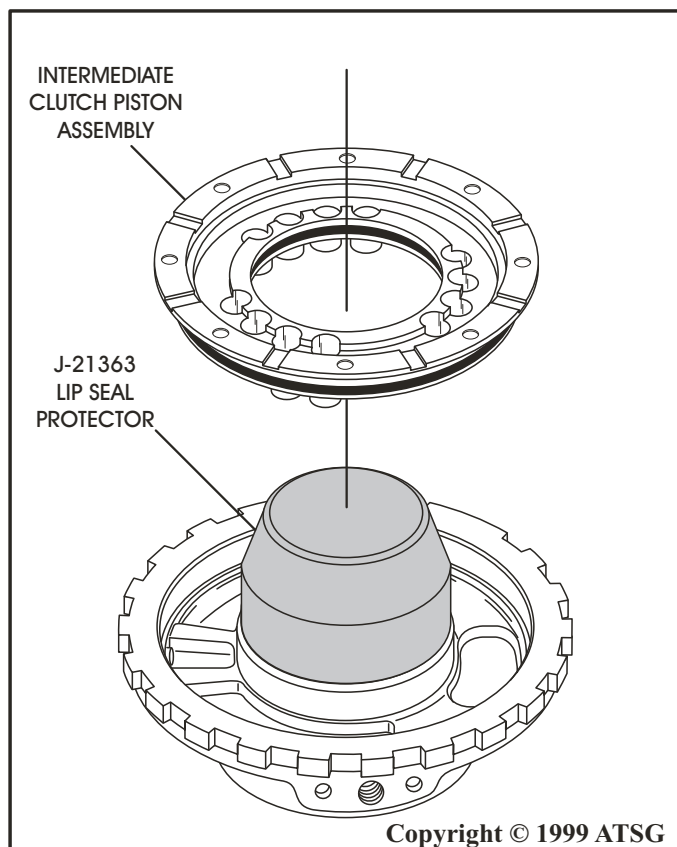

Figure 70
39. Install J-21363 lip seal protector over the center support, as shown in Figure 70.
40. Lubricate both lip seals and install intermediate clutch piston assembly over the seal protector and into the center support (See Figure 70).